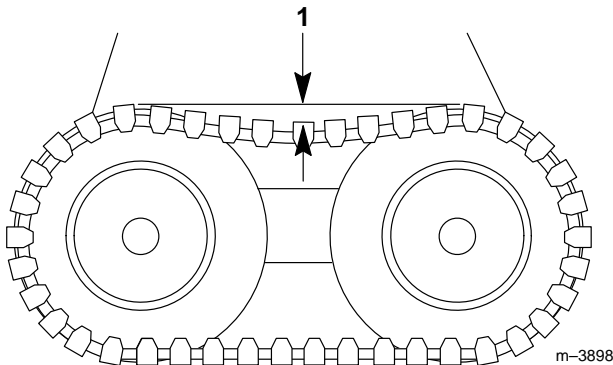

Figure 5
8. Lay a long, straight bar across the top of each track. There should be 1 to 3 in. (25 to 76 cm) of slack in the top span of the track below the bar (Fig. 5).
Check the tension of the tracks every 25 operating hours by laying a long, straight bar across the top of each track. There should be 1 to 3 in. (25 to 76 cm) of slack in the top span of the track below the bar (Fig. 5). If the track needs adjustment, complete the following procedure: